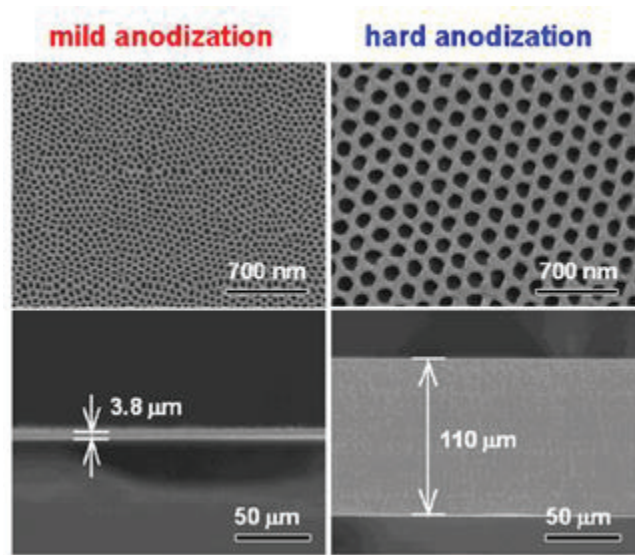

Figure 2: SEM comparison of anodic aluminum oxide surfaces formed by MA and HA⁴
Figure 2 below shows SEM (scanning electron microscope) image comparison between anodized aluminum oxide surfaces formed by mild (i.e. conventional) anodization (MA) and hard anodization (HA).⁴ Hard anodization can be seen to create larger and deeper pores (pore depth is 110 μm for HA vs. 3.8 μm for MA).